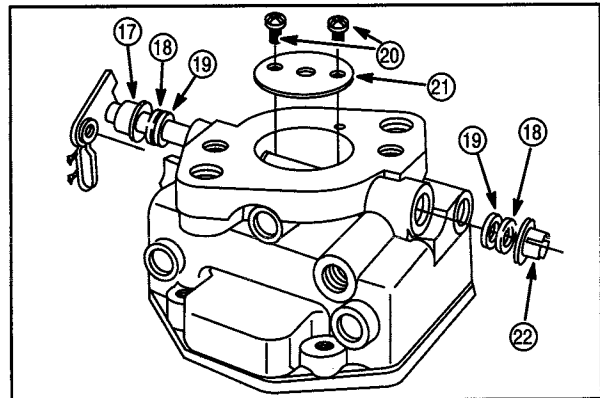

Fig. 102
10. Mark throttle plate (21), **Fig. 102,** before removing to ensure re-installation in the original position. Top and bottom edges are beveled. Remove screws (20) and throttle plate.
11. Remove retainer (22).
12. Remove throttle shaft with foam seals (18) and spacer (17).
13. Remove seals (19).